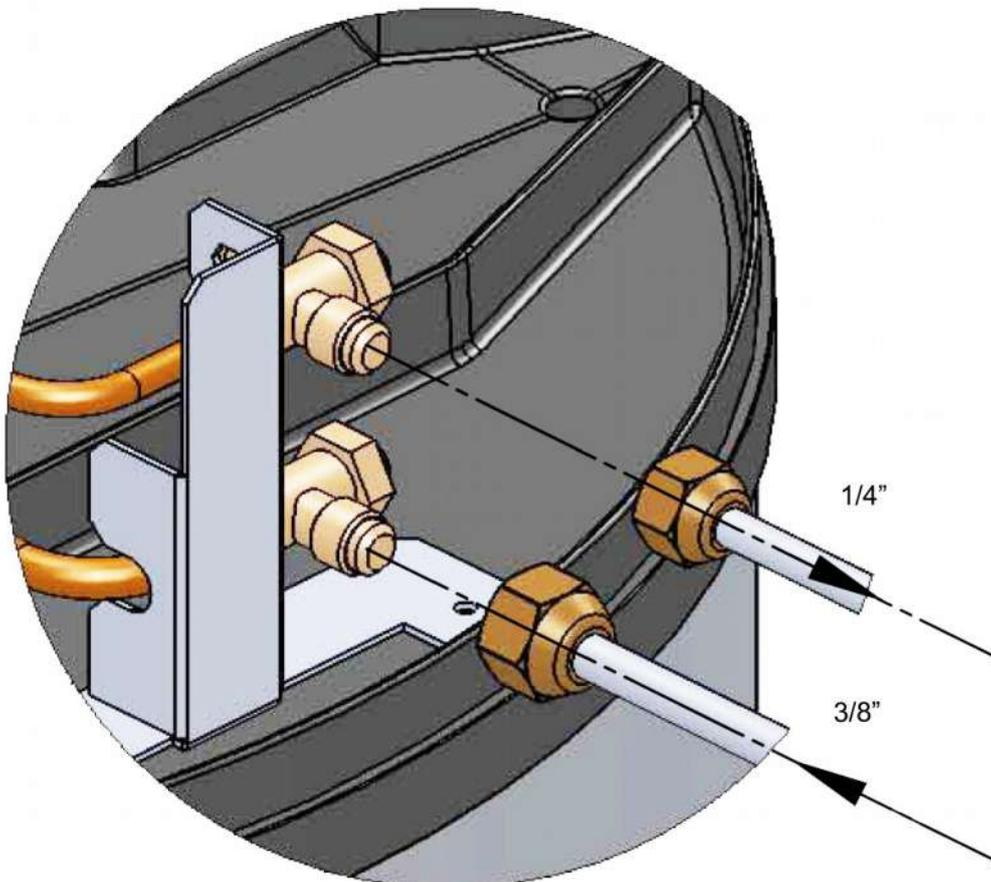

Fig.14
3.6.2 CONNESSIONI AL GRUPPO TERMODINAMICO (Fig. 14)